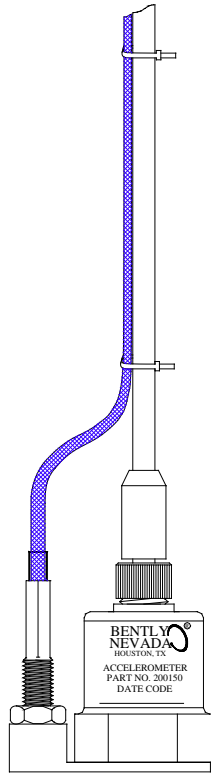

Figure 3: Vibration Transducer and Thermocouple
4. Tie the thermocouple cable at a point no more than 153 mm (6 inches) from the threaded steel sensor case. Secure remaining cable at regular intervals. Proper securing of the cable will minimize cable fatigue failure caused by excessive cable motion. See Figure 3.